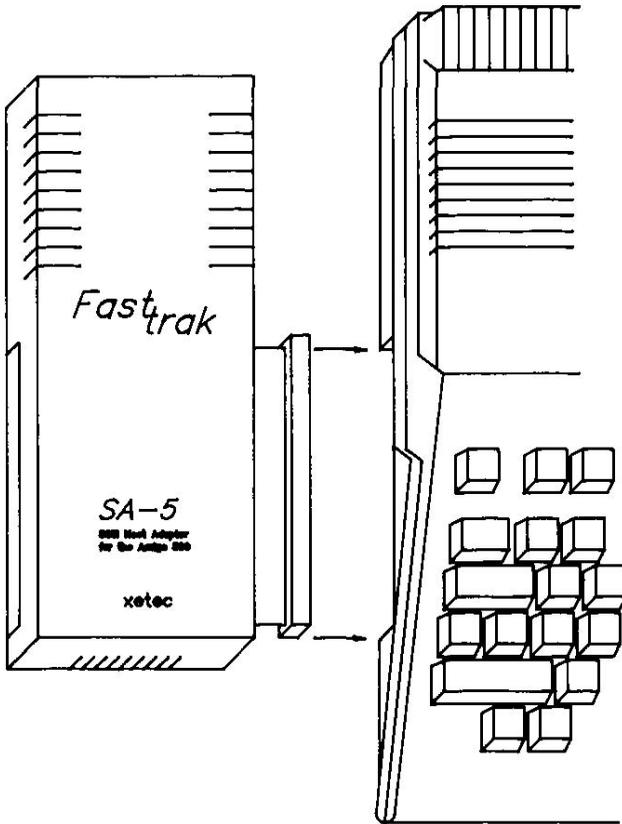

Fig. 4 - Host Adaptor Installation
- 5) Lay the *FastTrak* host adaptor to the left of the computer, positioned so that its cover is readable as you sit at the keyboard. See Fig. 4. Slide it to the right into the computer's expansion slot, guiding the host adaptor's connector onto the printed circuit board. Make sure it is seated fully and squarely.